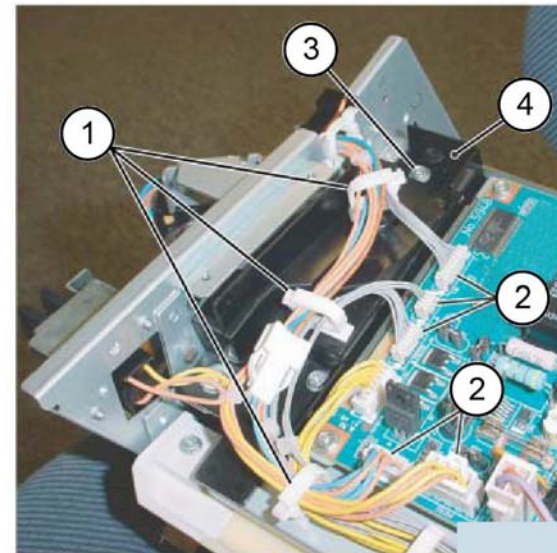

Figure 1 Connector bracket removal
4. Remove the connector bracket, Figure 1:
- a. Release the harness from the three clamps (1).
- b. Disconnect five 5 connectors (2).
- c. Remove two screws (3).
- d. Remove the connector bracket (4).